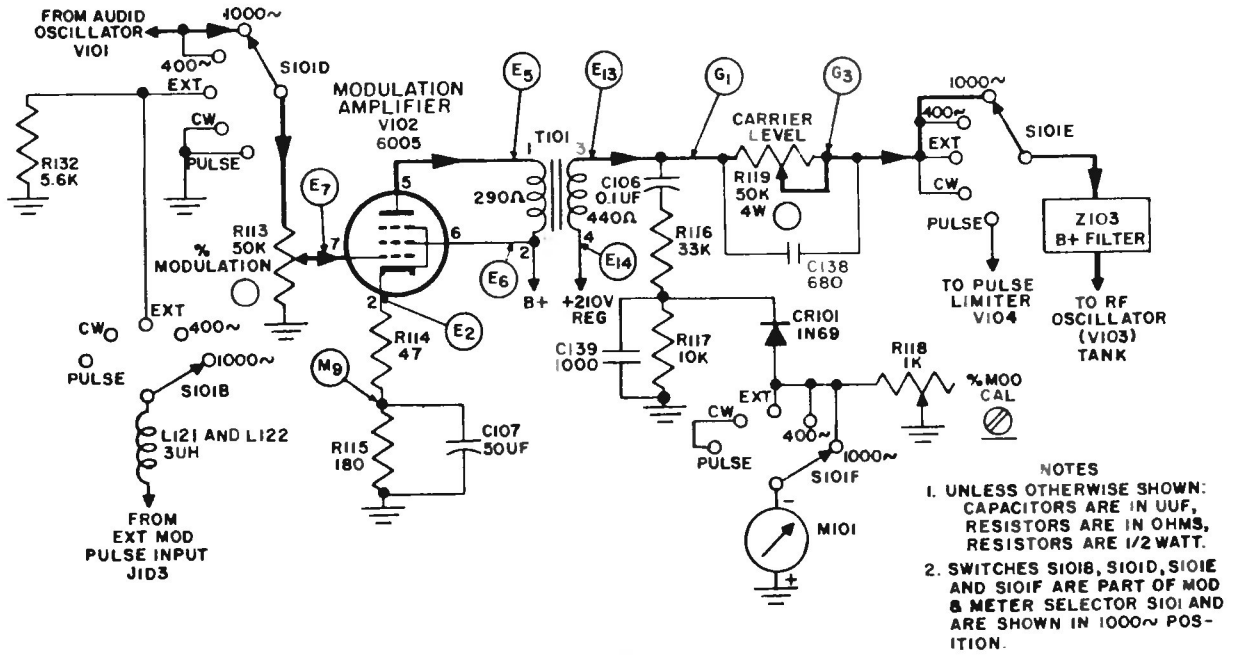

Figure 4-8. Simplified Schematic Diagram of the Modulation Amplifier and % Modulation Meter Circuit.
b. MODULATOR. — (See figure 4-8.) The input to modulator V102 is selected by switch S101D. In the 400 or 1000 cycle position, the input to modulator V102 comes from the output of audio oscillator. In the EXT position, switches S101B and S101D permit an external signal via J103, throughrf choken L121 and L122, stabilized by R132 to V102. When S101D is switched to CW or PULSE position, the modulation amplifier is shorted to ground. In other than the CW or PULSE position, the modulator provides a measurable degree of sine wave plate modulation to the rf oscillator V103 (see figure 4-8) by amplifying signal fed to the modulation amplifier input grid. The signal is then amplified by V102, passing through modulation transformer T101, through CARRIER LEVEL control R119, through S101E and Z103 to the rf oscillator coil tank. Resistors R114 and R115 provide cathode bias. Resistor R115 is by-passed by C107 to smooth out the cathode bias, but R114 (a smaller resistor) is left unby-passed to introduce enough degeneration to decrease distortion in the stage. The CARRIER LEVEL control R119 is a front panel control for setting M101 to the red line on the meter.
c. % MODULATION CIRCUIT. — Since the plate voltage of the RF Oscillator V103 (see figure 4-8) is supplied through modulation transformer T101 at a regulated 210 volts, the percentage of modulation is directly
proportional to the amount of modulating voltage introduced and is independent of the actual carrier voltage. This is explained by the fact that 100% modulation is introduced when the modulating voltage swings the instantaneous plate potential from zero to twice the dc plate voltage. Smaller modulating voltages therefore result in lower degrees of modulation. The desired percentage of modulation is selected by means of % MODULATION potentiometer R113 (see figure 4-8) and is read directly from meter M101. The modulating voltage is applied to V102 across R113. A part of the modulating voltage is taken off C106 blocking capacitor and voltage divider R116 and R117, rectified by CR101 and read by M101 when MOD and METER SELECTOR switch is in the 400~, 1000~ or EXT position. Adjustment R119 sets the meter sensitivity by internal screwdriver adjustment when calibrating M101 for percent modulation.